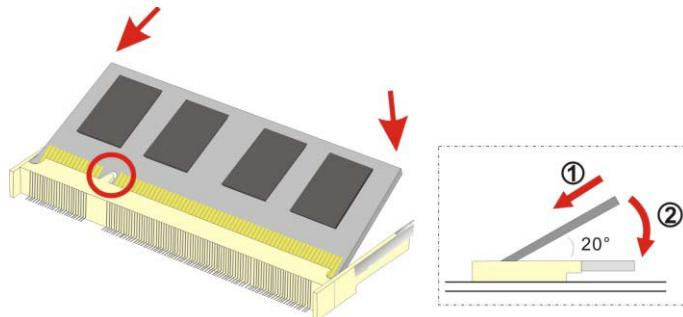

Figure 4-1: SO-DIMM Installation
To install a SO-DIMM into a SO-DIMM socket, please follow the steps below and refer to **Figure 4-1**.
Step 3: Insert the SO-DIMM. Push the SO-DIMM chip into the socket at an angle. (See **Figure 4-1**)
Step 4: **Open the SO-DIMM socket arms.** Gently pull the arms of the SO-DIMM socket out and push the rear of the SO-DIMM down. (See **Figure 4-1**)